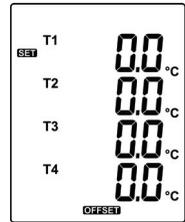

Fig.13
- (1) Press the or button to select thermocouple channel. (see Fig.13)